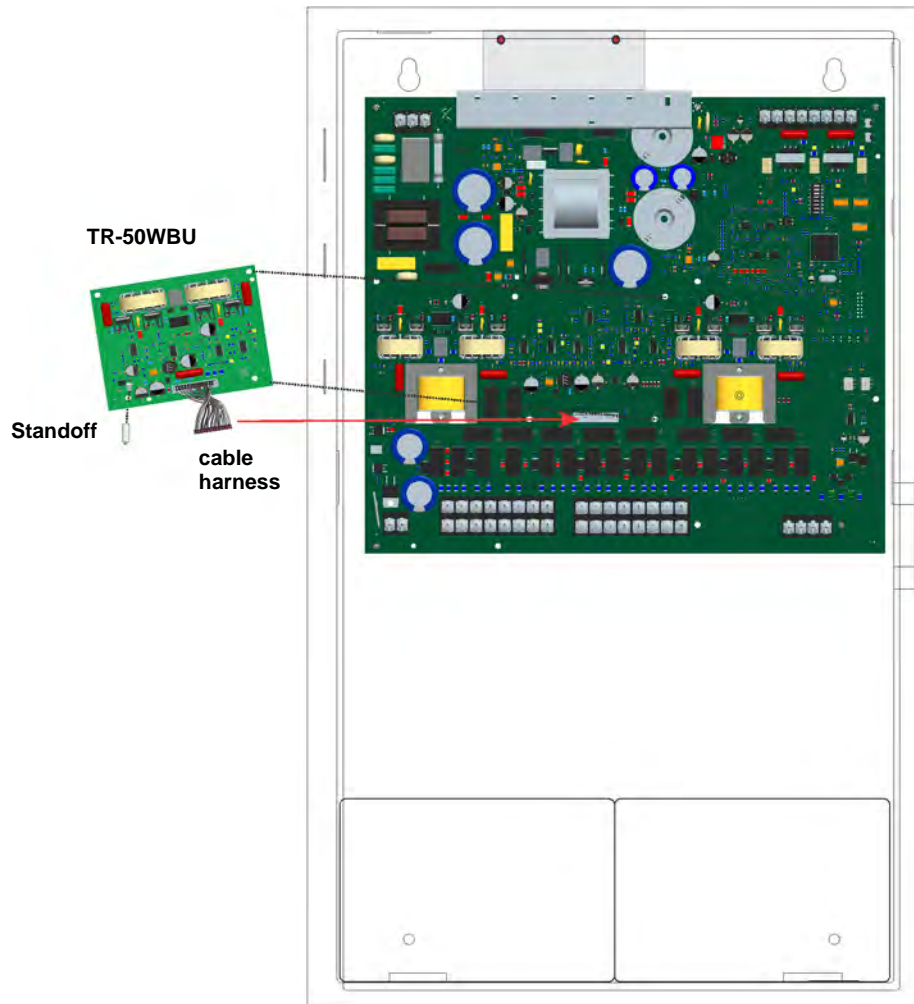

Figure 4.51 Mounting the TR-50WBU
2. Connect the backup amplifier cable harness (P/N 50116775-001) from the connector labeled “Backup Amplifier” on the TR-DUAL50W to the connector on the TR-50WBU as shown in Figure 4.51.
- Using the 4 supplied screws, mount the TR-50WBU to the standoff's as shown in Figure 4.51.